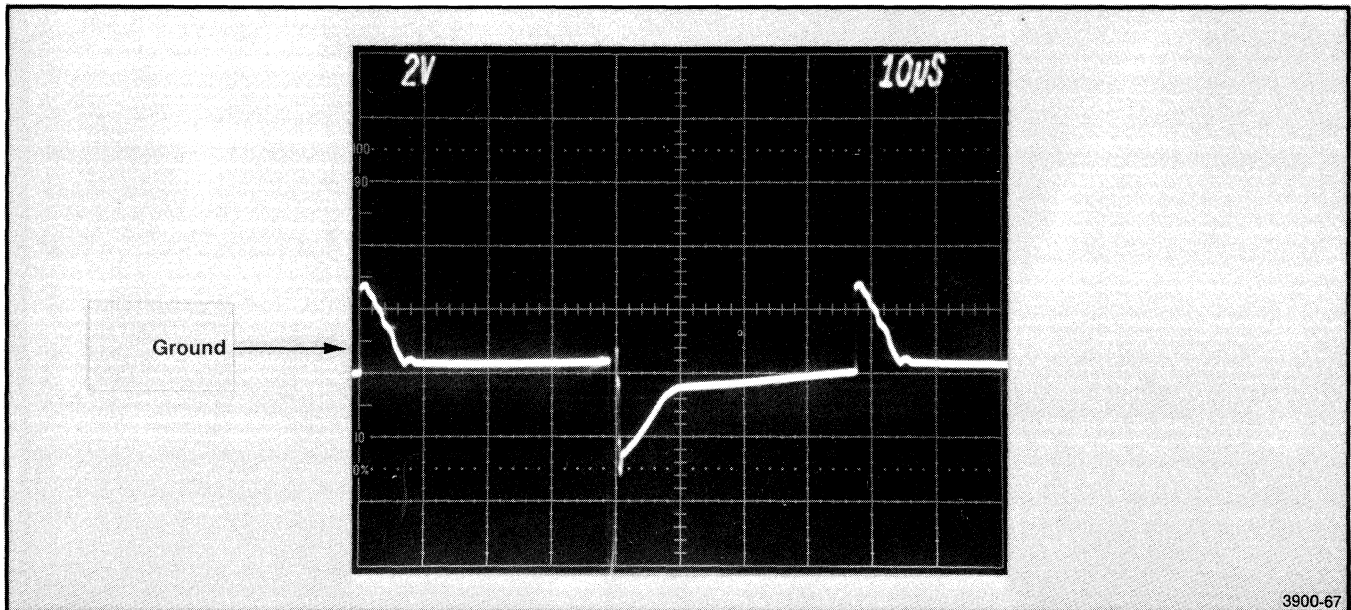

Fig. 12-8. Q3010/Q2010 base-emitter voltage waveform.
8. Turn on the 8560 dc power switch. The scope should display the waveform shown in Fig. 12-8 or a waveform shifted from this by 180 degrees. If the waveform is correct, proceed to step 10.